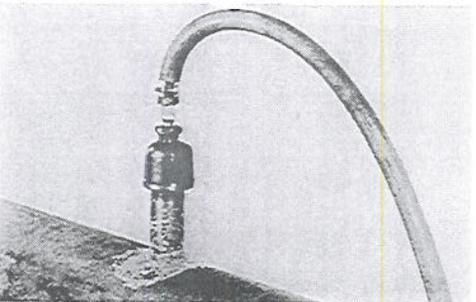

FIGURE 37
2. Apply air pressure and test for leaks with soapsuds (add glycerin in freezing weather) or bubble type leak detection fluid. **Figure 37.**